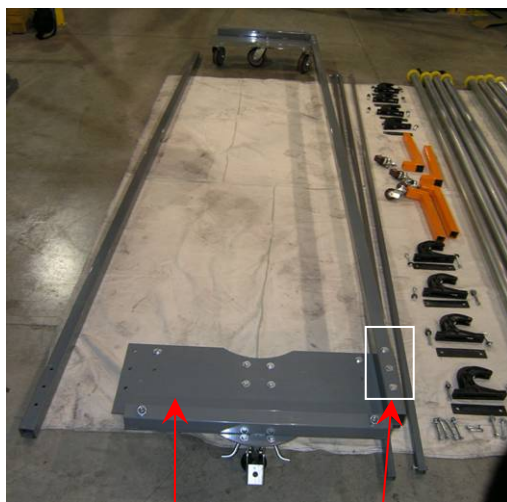

Fig 5.1 Base End Plate Bolt and Washer location on Side Rail
- 5.2 Insert Three (3) -3/8" x 3" bolts (**A**) and 3/8" flat washers (**K**) c/w 3/8" Locknuts (**G**) through the top of the side rails as shown in Fig 5.1 Bolt Heads and Washers should be on the Top Side of side rail.